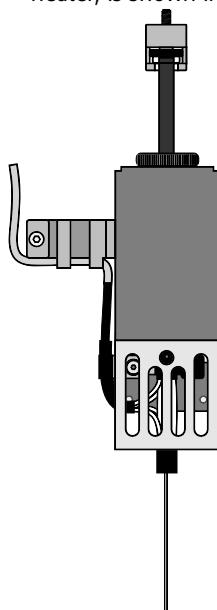

Figure 21. Final Assembly of ITEX-2 Syringe, Heater and Trap.
5. Attach the plunger holder to the syringe plunger. The final assembly of the ITEX-2 headspace syringe, inserted in the syringe heater and trap heater, is shown in Figure 21.